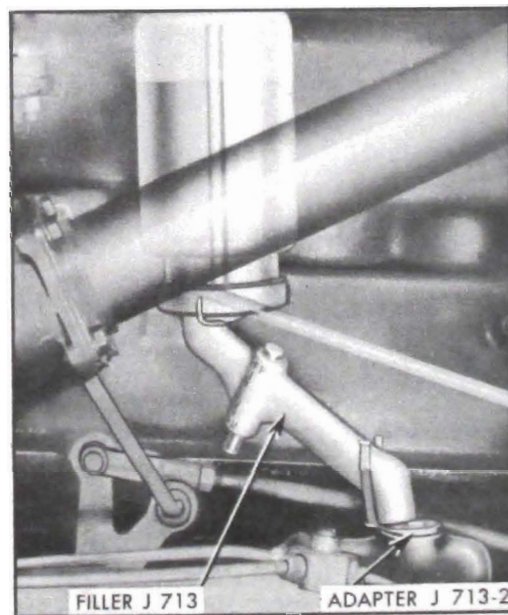

Figure 8-5—Master Cylinder Filler and Adapter
Before removing filler cap nut to check fluid level or add fluid, thoroughly clean the cap and surrounding area of cylinder to avoid getting dirt into reservoir. It is recommended that Master Cylinder Filler J 713 and Adapter J 713-2 (fig. 8-5) or a pressure tank be used when filling master cylinder reservoir, to avoid entrance of dirt into the reservoir or the fluid container.
2. Fill Master Cylinder Filler J 713 with specified brake fluid (par. 8-8) and use Adapter J 713-2 to support the filler in place on master cylinder. See figure 8-5. Leave Filler J 713 in place during all bleeding operations as it automatically maintains the proper level in reservoir as fluid is pumped out of master cylinder.